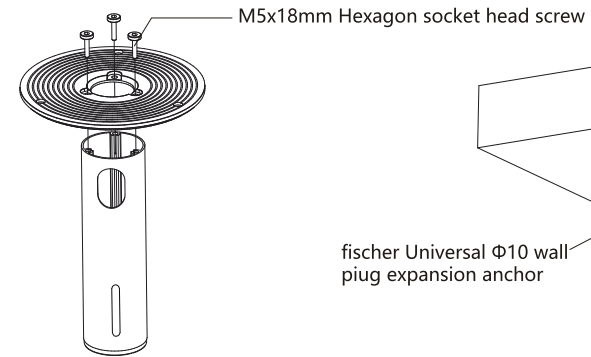

Figure 1
1. Select the M5 hexagon socket flat head screw in the accessories, align the ceiling mounting top plate with the screw holes of the main pole, and then fasten it with the screw. (figure 1)